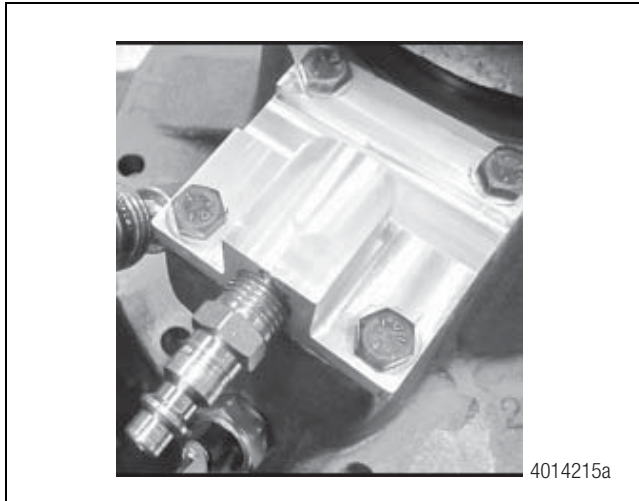

Figure 6.26
19. Screw in a fitting onto the shift cylinder cap. Figure 6.26.